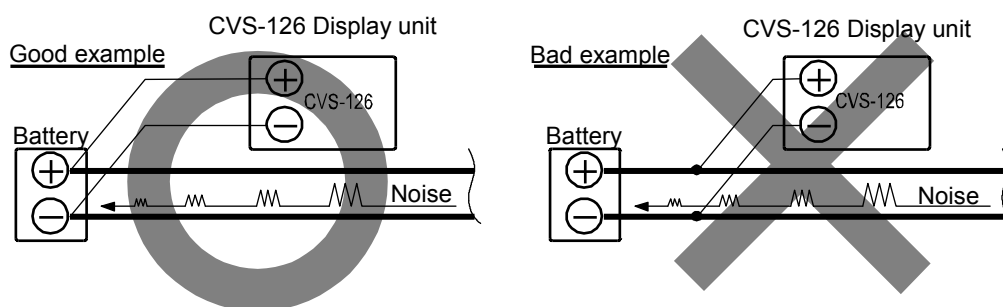

Fig. 5.1 Connection of Power Line
- (1) Keep the transducer and power cable as far away from the cables of other electronic equipment as possible.
- (2) The cabinet of CVS-126 Display unit is securely grounded to the hull, using the ground terminal on the rear panel.
- (3) If you connect the power cable directly to the battery, the interference from other electronic equipment is not subject to occurrence. (See Fig. 5.1.)